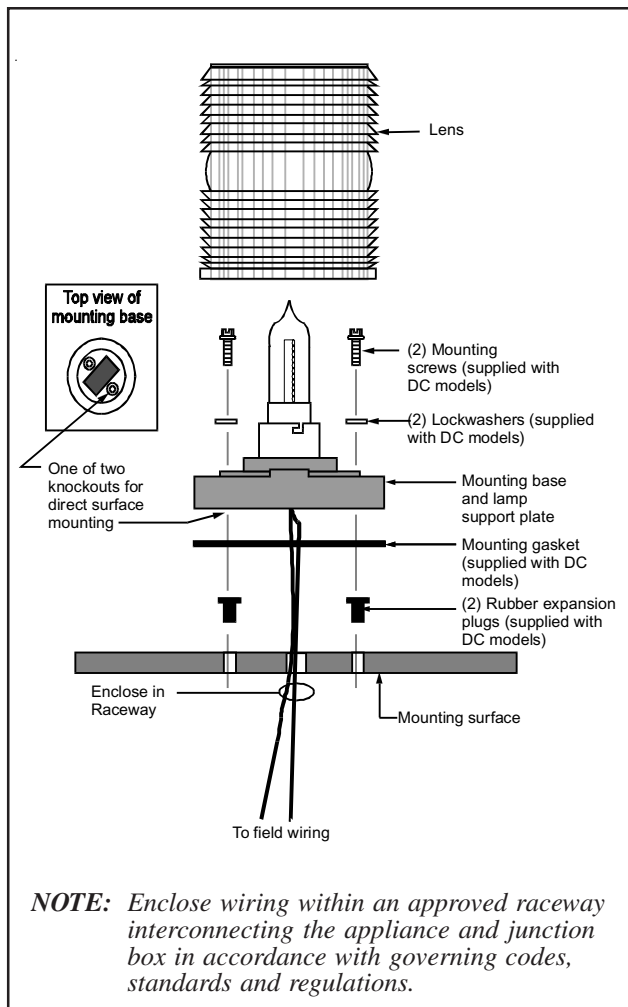

Figure 2. Direct Surface Mounting of the 48 Series Signals
### Direct Surface Mounting (Indoor Only) - Figure 2
5. Align the outer holes in the mounting gasket with the holes in the surface. Insert two screws with lockwashers through the two outer holes in the signal base and align the screws with the rubber expansion plugs as shown in Figure 2. Press the signal base firmly against the mounting surface and tighten the screws.